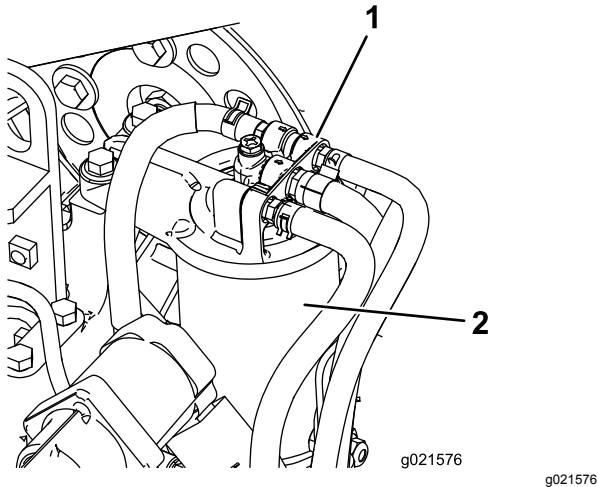

Figure 72
1. Clean the area around the fuel-filter head (Figure 72).
2. Remove the filter and clean the filter head mounting surface (Figure 72).